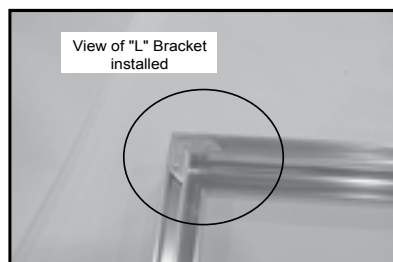

Figure 14C
2. To assemble the trim, attach the 2 side trim pieces to the top trim at each corner using the "L" bracket included in fasteners package. **Figure 14C**